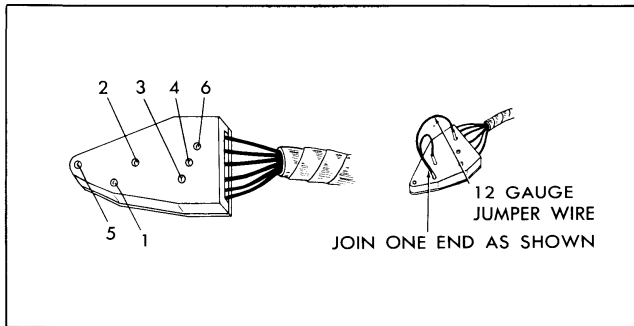

Fig. 9-21
1. Connect one light tester lead to feed terminal of switch block and ground other test lead to body metal (Fig. 9-21).
obtain a specific movement of the seat are shown in Fig. 9-21. If a jumper wire is used, number the locations on the switch block as indicated in the illustration. Details outlining the making and use of the jumper wire follow the checking procedures.
To make jumper wire, obtain two pieces of No. 12 gauge wire, each 4-1/2" long, join one end of each wire as shown in figure 9-21. The joined end can be inserted in the feed location in the switch block; one of the remaining ends can be inserted into one of the field locations in the switch block; the other end can be inserted into one of the solenoid locations.